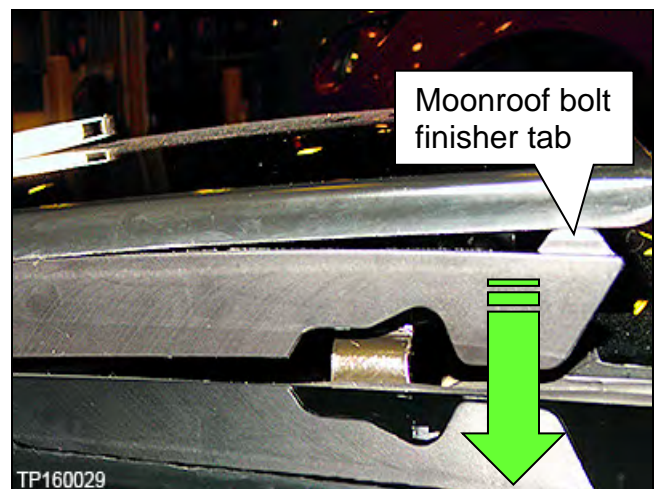

Figure 52
- b. Pull the Moonroof bolt finisher tab (plastic tab) down and away from the Moonroof and allow it to rest in the position shown in Figure 52.